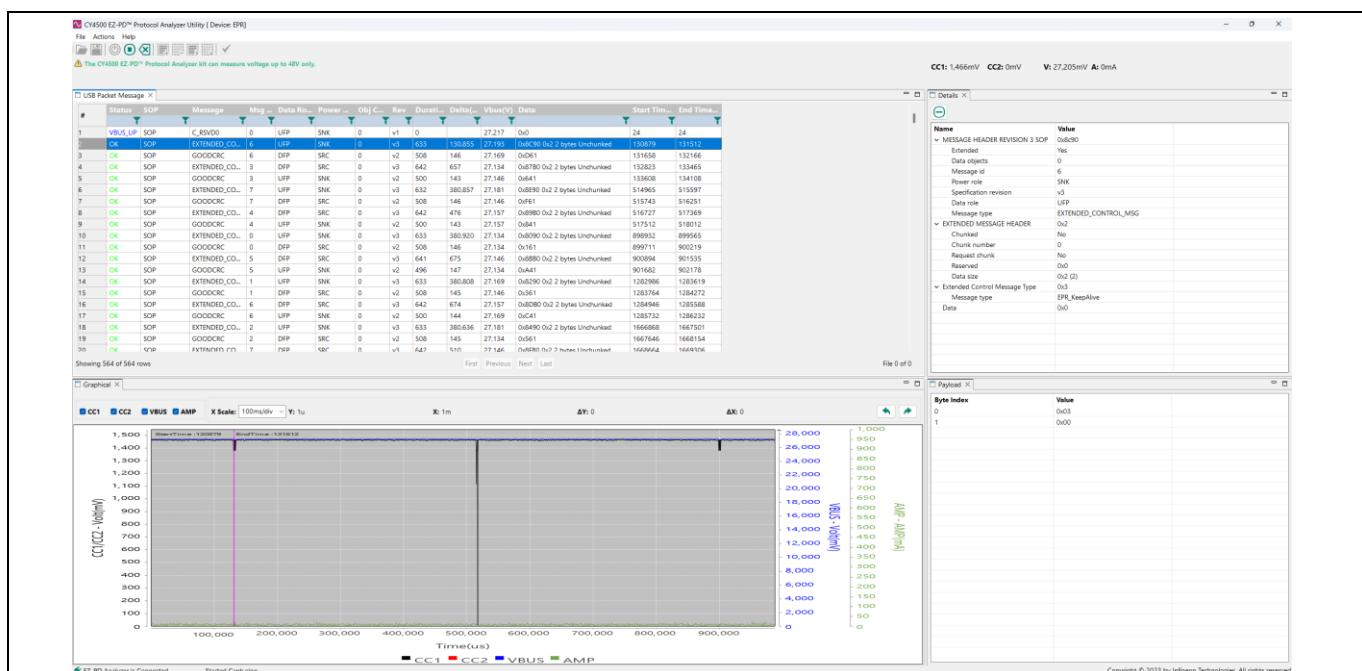

Figure 14 EZ-PD™ Analyzer Utility showing PD packets captured on the CC line
- Upon connecting the USB Type-C power adapter, the utility running on the host PC automatically displays a string of messages on the screen. Make sure that the hardware connections are not loose or do not get disconnected in the middle of a data capturing event. The EZ-PD™ Analyzer Utility will display messages as shown in Figure 14.